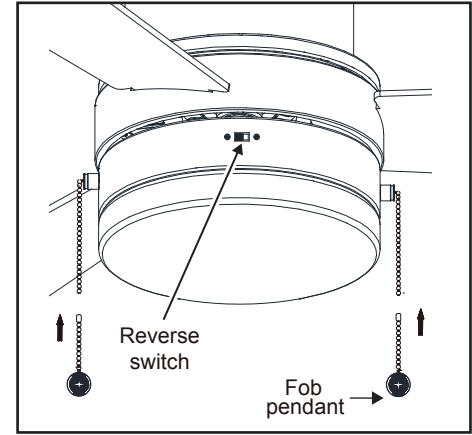

Figure 17
9. Install the pull chain extension chains and fobs. (Figure 17)
The fan shipped from the factory with the reversing switch positioned to circulate air downward. If airflow is desired in the opposite direction, turn your fan off and wait for the blades to stop turning, then slide the reversing switch (located on the light kit pan, refer to figure 17 on page 8) to opposite position, and turn fan on again. The fan blades will turn in the opposite direction and reverse airflow.